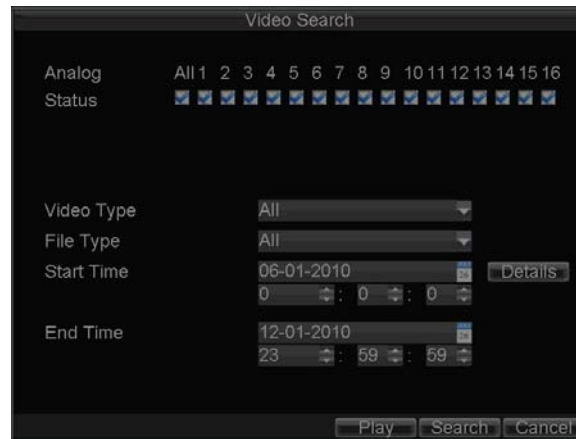

Figure 1. Video Search
1. Click Menu > Video Search to enter the Video Search menu, shown in Figure 1.